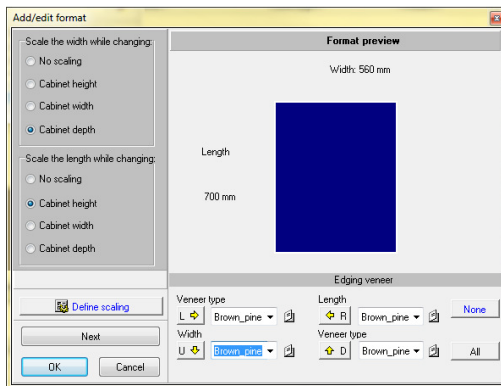

Fig. 105 – exemplary format scaling
- for example: for a side format you can define, that together with the change of cabinet's depth, also the width of the format will be accordingly modified, and when the height of the cabinet will be altered, also the length of the particular format will change proportionally (Fig. 105);